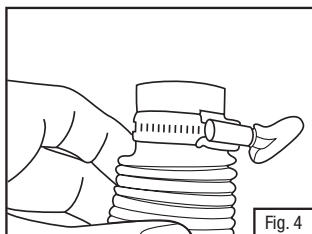

Fig. 4
1. Place the hose clamp onto the free end of the breathing tube. (Fig. 4)